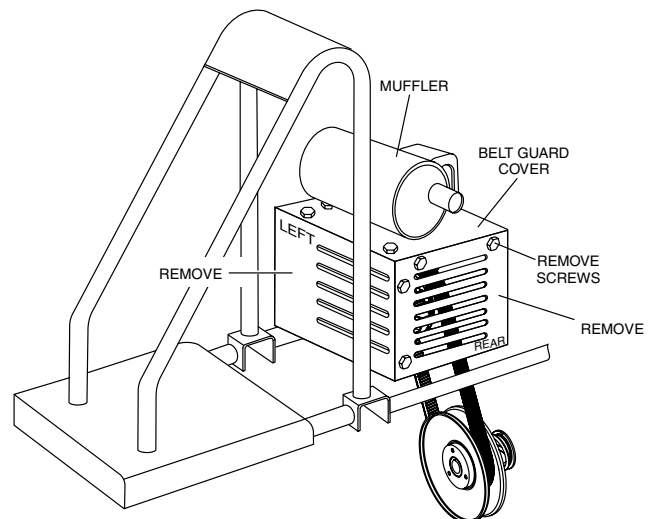

Figure 28. Remove Belt Guard Panels
1. Remove the rear and left panels of the Drive Belt Guard. See Figure 28.